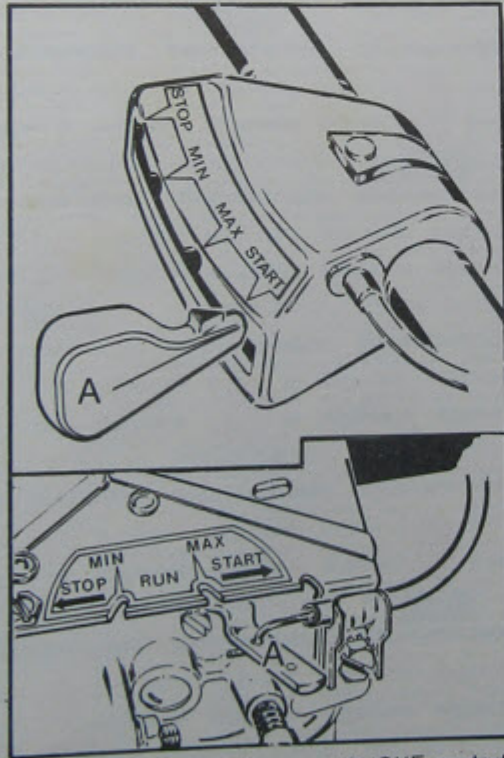

Fig.4 Remote control lever on CHOKE or start position
- Check remote control assy for proper adjustment, with the lever A in choke or start position the carburettor choke should be fully closed. (Fig. 4)